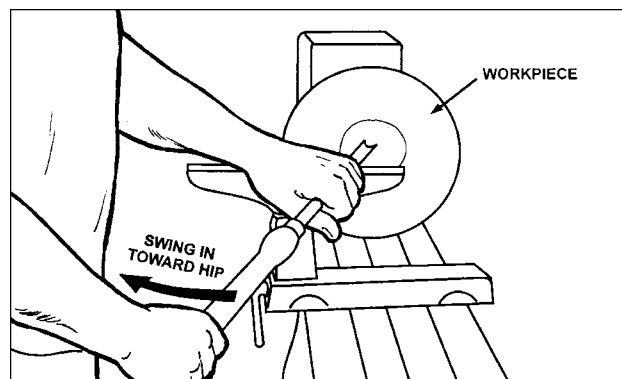

Fig. 23
5. Place 1/2" bowl gouge on tool rest at center of the workpiece with the flute facing top of bowl. The tool handle should be level and pointed toward four o'clock, see Figure 23.
6. Use left hand to control cutting edge of gouge, while right hand swings tool handle around toward your body, see Figure 23. The flute should start out facing top of workpiece, and rotate upward as it moves deeper into the bowl to maintain a clean even curve. As tool goes deeper into bowl, progressively work out toward rim. It may be necessary to turn the tool rest into the work piece as you get deeper into the bowl.